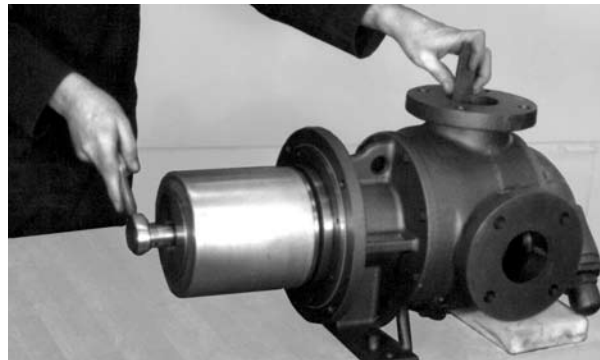
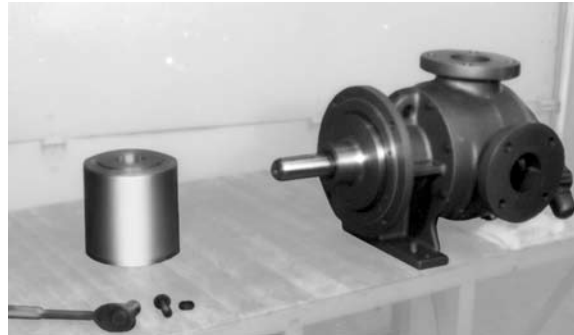

FIGURE 13
FIGURE 14
7. Insert a brass bar through a port between two rotor teeth and loosen the capscrew holding the inner magnet onto the shaft. See **Figure 13**. The 0.437" capscrew has right hand threads therefore turn it counterclockwise. **THE INNER MAGNET HAS A VERY STRONG MAGNETIC FIELD AND IS MOST DANGEROUS IN THE UN-ASSEMBLED CONDITION. THE MAGNET IS QUITE HEAVY AND WILL BE DRAWN TO ANY FERROUS OBJECT OR SURFACE CAUSING POTENTIAL PINCHING. BEWARE OF THE CAUTIONS LISTED ON (PAGE 3). USE EXTREME CARE SLIDING THE MAGNET OFF OF THE PUMP SHAFT. SET THE MAGNET DOWN ON EITHER END AWAY FROM ALL OTHER OBJECTS.** See **Figure 14**. Remove the key and the external snap ring (LQ & LS) and then finish disassembly of the pump.